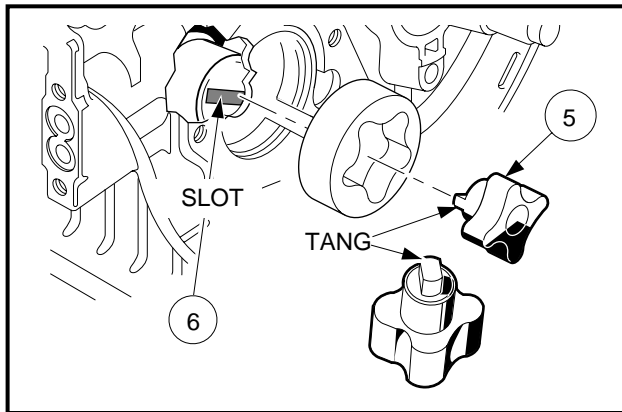

Figure 13-72 Install Inner Rotor
2. Install the inner rotor with its tang in the slot in the end of the camshaft (**Figure 13-72, Page 13-35**).